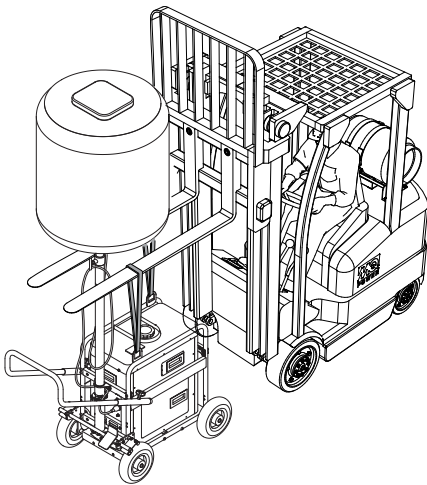

Figure 38. Lifting the GBX8B Cart
2. Use sling belts of sufficient strength with the lifting eyes to lift the balloon cart (Figure 38). Make sure that the balloon cart is balanced horizontally while lifting.